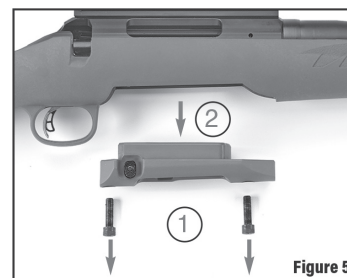

Figure 5
3. **Be sure to support the rifle action to prevent it from tipping out of the stock during screw removal.** From the bottom of the rifle, use a 3/16" Allen wrench to loosen and remove the two socket head cap screws from each end of the magazine well and remove your current magazine well insert. (See Figure 5)